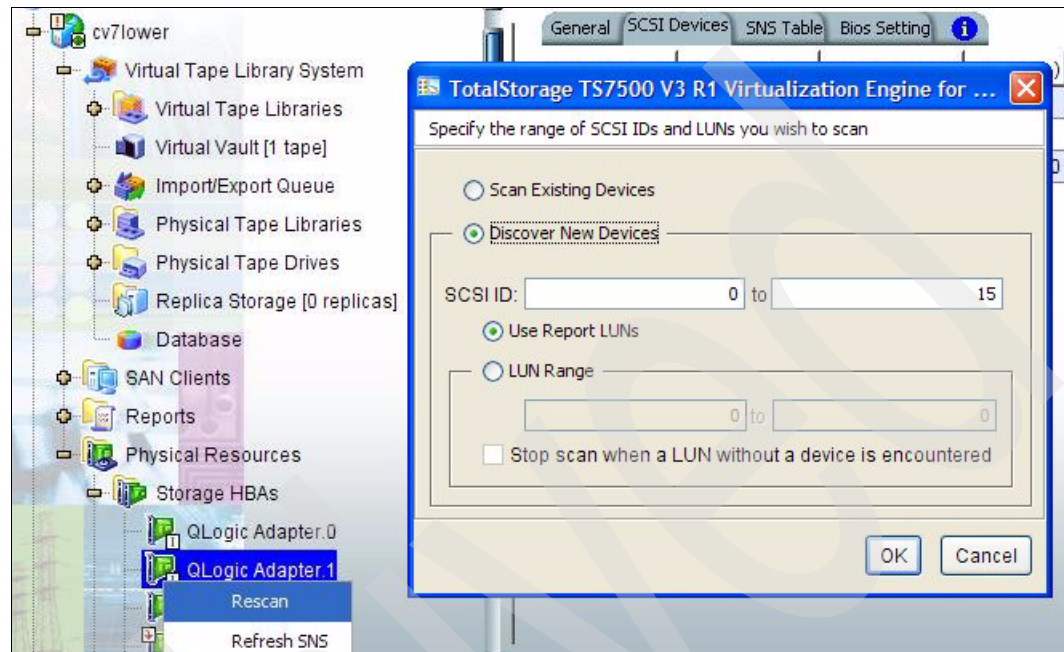

Figure 7-40 Discover new devices
5. Ensure that the physical tape drives in the 3494 library are correctly connected to an initiator port on the TS7500 server. The drives can be either connected directly or via switched environment. After the drives are correctly connected to the TS7500 HBA, perform a rescan on the appropriate HBA to discover the tape devices. See Figure 7-40.